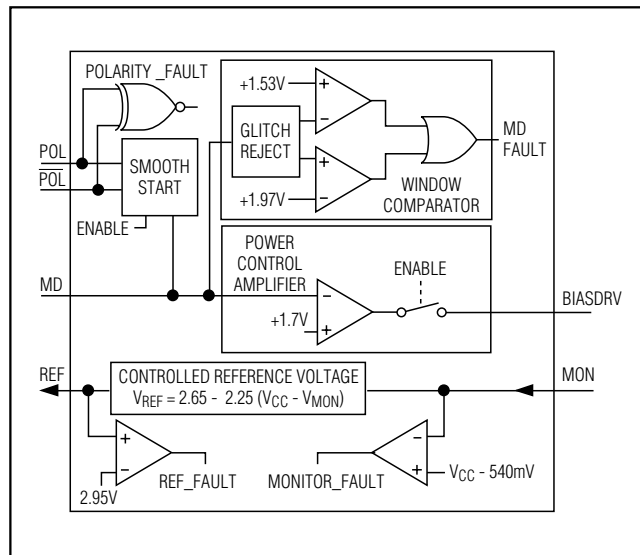

Figure 3. Bias Generator Circuitry
Figure 3 shows the bias generator circuitry containing a power-control amplifier, controlled reference voltage, smooth-start circuit, and window comparator. The bias generator combined with an external PNP or NPN transistor provides DC laser current to bias the laser in a light-emitting state. When there is a monitor diode (MD) in the laser package, the APC circuitry adjusts the laser-bias current to maintain average power over tem-